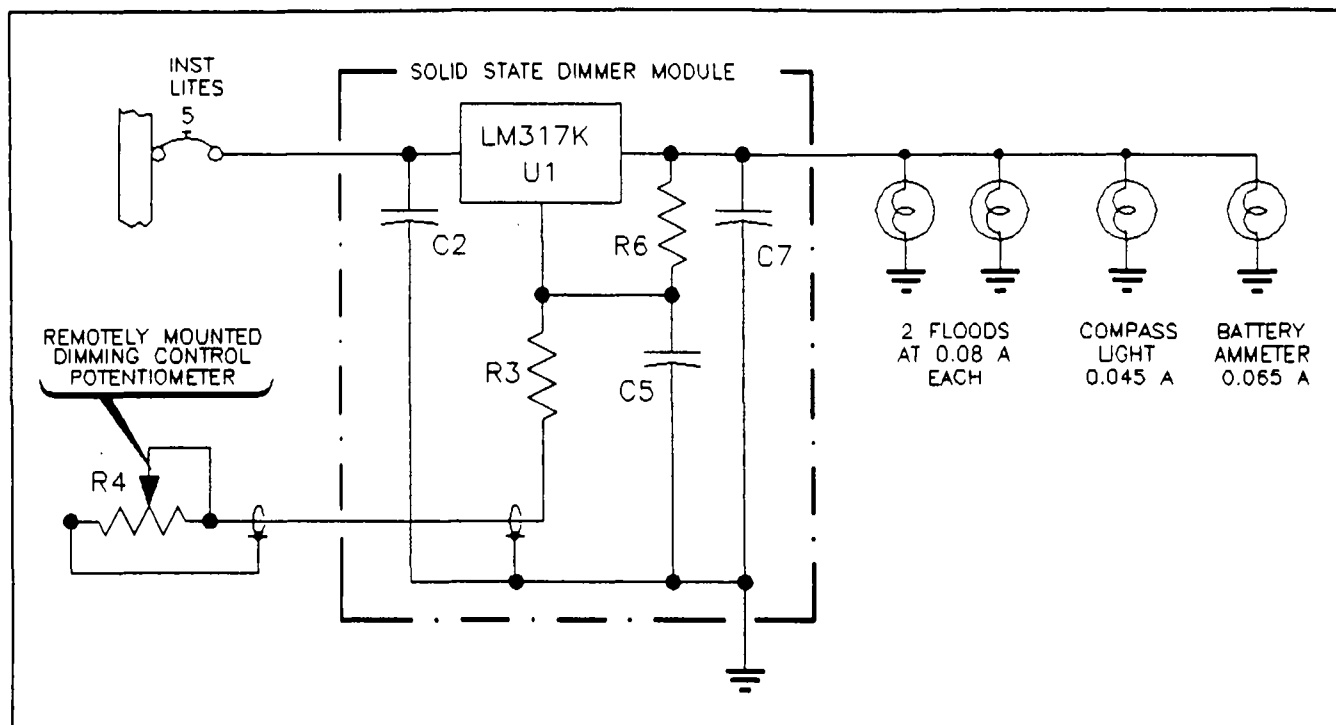

Figure 12-8. Example of Dimming Control using Solid State Dimmer Circuit.
An alternative dimming control is illustrated in Figure 12-8. This circuit has some decided advantages over the simple rheostat and they are: (1) the controlling device mounted on your panel can be a very small potentiometer (check out the Clarostat RV6 series pots in the Digikey catalog), (2) the major power dissipating component is an integrated circuit mounted on a remotely located heatsink, (3) dimming characteristics provide smoothly varied lamp intensity with respect to dimming knob position, (4) the electronic circuit is load current and supply voltage independent.